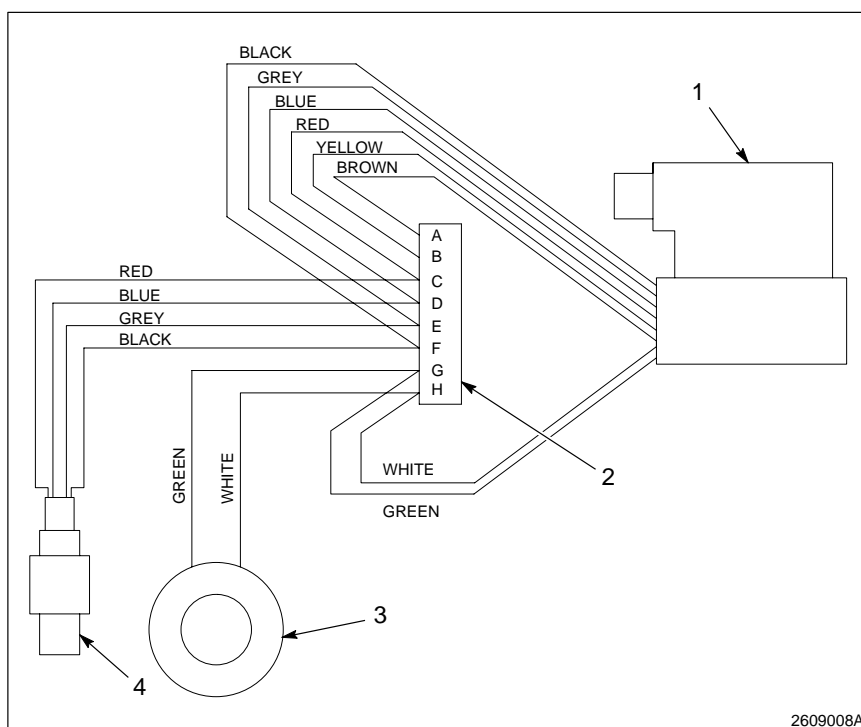

Fig. 6-4 Cordset Wiring
3. Align the trimset valve (6) on the actuator body (1) and tighten the screws (2).
4. Attach the cordset (4) to the actuator body (1) and loosely tighten the cordset clamp (3) screws.
5. Attach the cordset (4) to the set screws on the terminal block (11). (See Figure 6-4 for the wiring diagram).
6. Loosely install the spring cover (10).
7. Connect the cordset plug to the pressure transducer. Replace the pressure transducer cover (5).
8. Adjust the position of the cordset (4) and tighten the cordset clamps (3) and the spring cover (10).
9. Replace the O-rings (8) and secure the air manifold (9) to the actuator body (1).